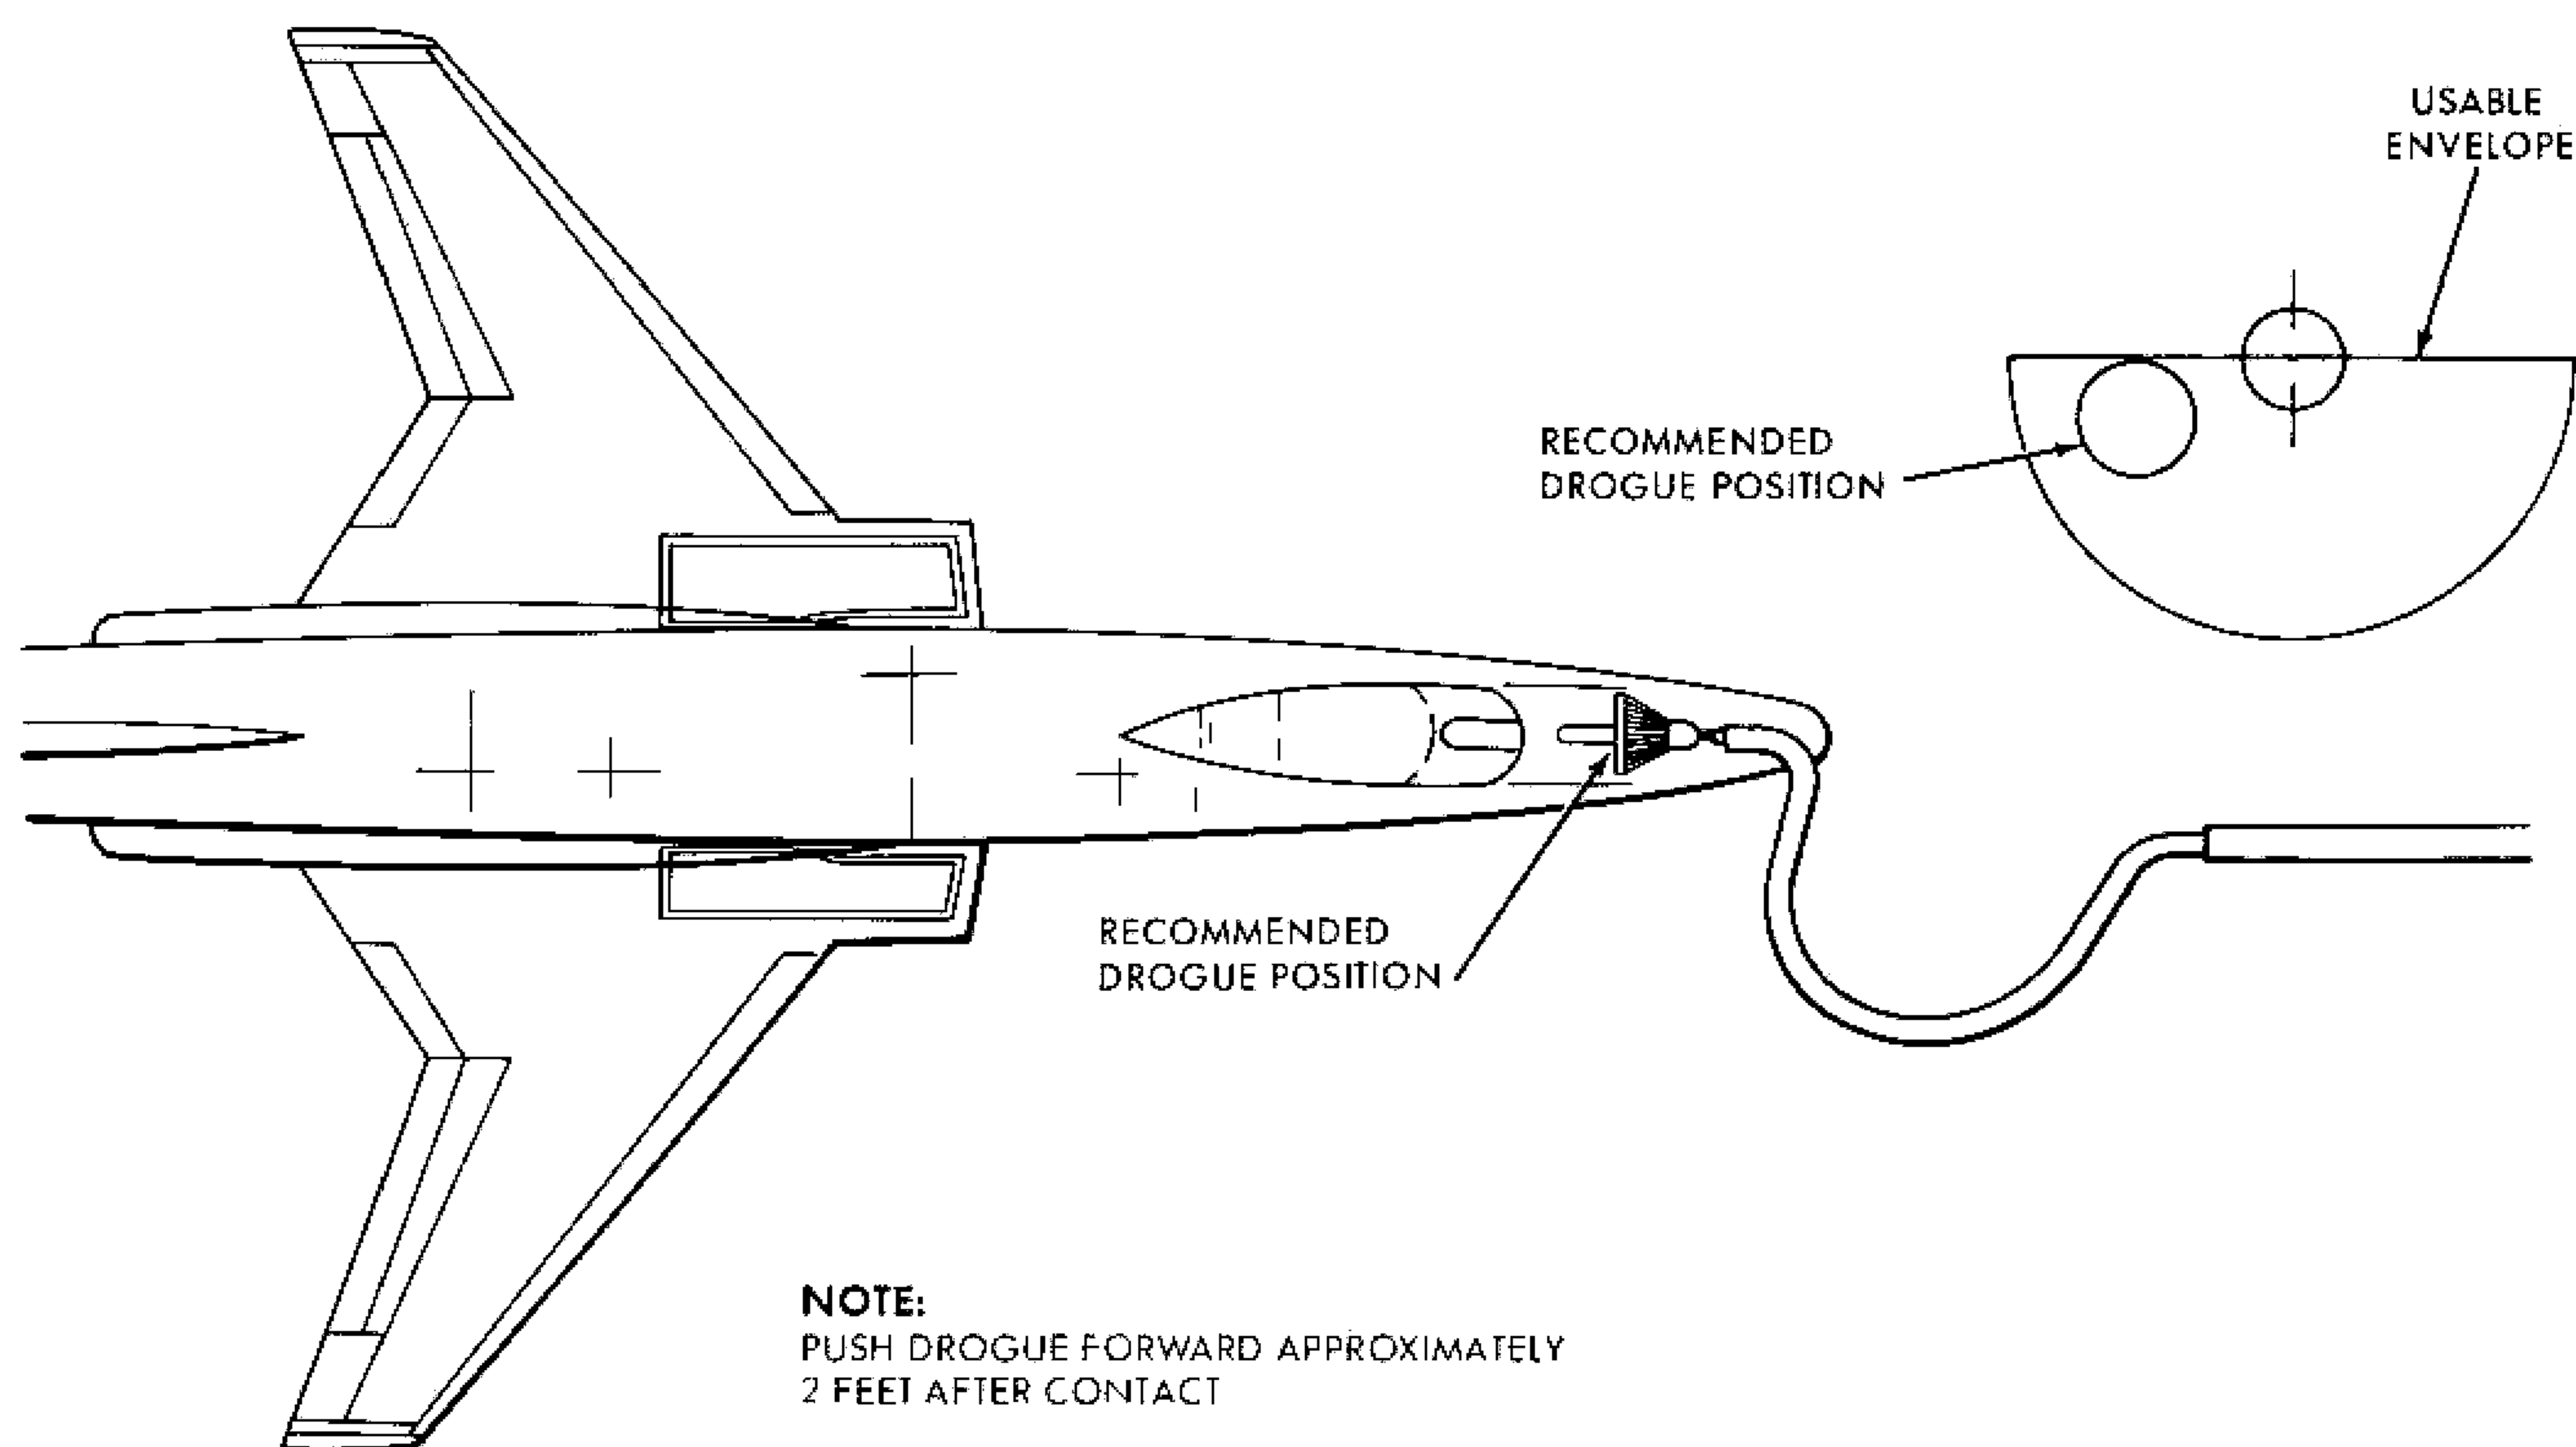

Figure 4-1
ready," and the receiver pilot will state, "(Receiver call sign) ready," before attempting a hookup. The receiver should position the probe approximately 2 feet directly aft of the drogue. If necessary, the boom operator will aid in directing the receiver into position. When in position, the boom operator will fly the drogue into contact with the probe, actuate signal system manual contact switch, state, "(Tanker call sign) contact," and commence air refueling at the maximum rate for the receiver involved. The receiver pilot will state, "(Receiver call sign) contact," each time contact is made. The receiver pilot will monitor the receiver director lights for necessary corrections to remain in the air refueling envelope. After contact, the drogue should be pushed forward approximately 2 feet. (See figure 4-1.) If pushed too far forward, the excessive hose arc will cause hose whip. If a slight hose arc is not maintained, fore and aft stresses will cause premature disconnect. The boom operator will trigger disconnect prior to the receiver disconnecting. Normal disconnects will be coordinated with the boom operator to insure that fuel pressure is off and boom, hose, and drogue are aligned. For normal disconnects, the receiver will maneuver so the drogue is in the trail position and reduce power to move slowly aft until disconnect. Any time a disconnect occurs, the receiver pilot will state, "(Receiver call sign) disconnect," and the boom operator will acknowledge with, "(Tanker call sign) disconnect."
The receiver pilot will state, "(Receiver call sign) contact," each time contact is made. The receiver pilot will monitor the receiver director lights for necessary corrections to remain in the air refueling envelope. After contact, the drogue should be pushed forward approximately 2 feet, (See figure 4-1.) If pushed too far forward, the excessive hose arc will cause hose whip. If a slight hose arc is not maintained, fore-and-aft stresses will cause premature disconnect. The boom operator will trigger disconnect prior to the receiver disconnecting. Normal disconnects will be coordinated with the boom operator to insure that fuel pressure is off and boom, hose, and drogue are aligned. For normal disconnects, the receiver will maneuver so the drogue is in the trail position and reduce power to move slowly straight aft until disconnect.
f. After contact is effected, position the drogue as shown in figure 4-1. The hose is approximately 9 feet long and allows for approximately 5 feet of fore-and-aft movement of the receiver airplane without becoming disconnected, or damaging the hose. During all contacts the boom operator will hold the boom as motionless as possible. All contacts will be affected by the receiver pilot.